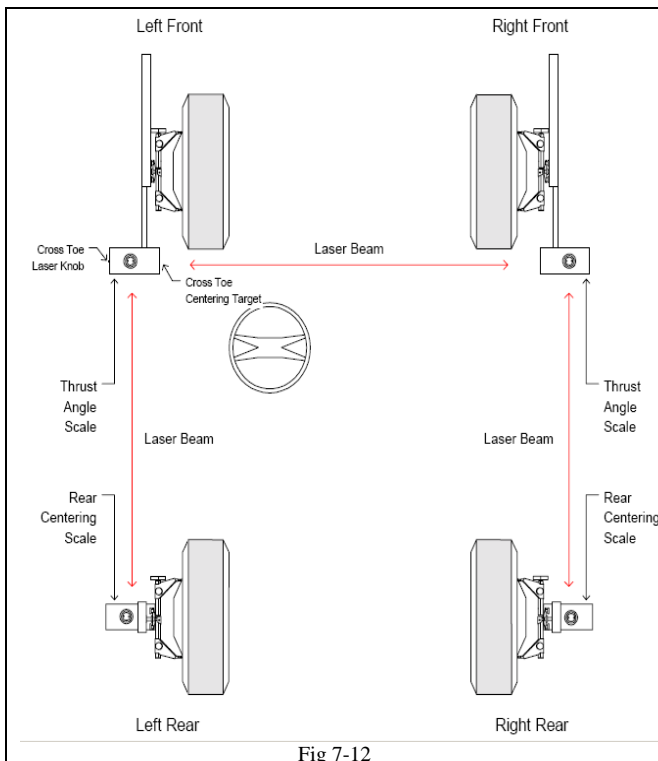

Fig 7-12
(1) Turn guns on and confirm laser is hitting the rear scales and bouncing back to the front scales. (Fig 7-12)
(2) Check to make sure that the front cross-toe laser is hitting the cross-toe mirror and then bouncing back to the cross-toe